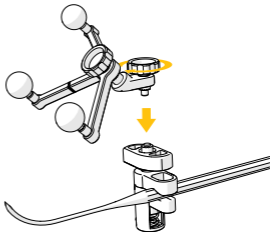

Figure 7: Elbow to clamp attachment
4. Rotate the knurled screw clockwise until the elbow is rigidly attached to the clamp. Refer to *Figure 7*.